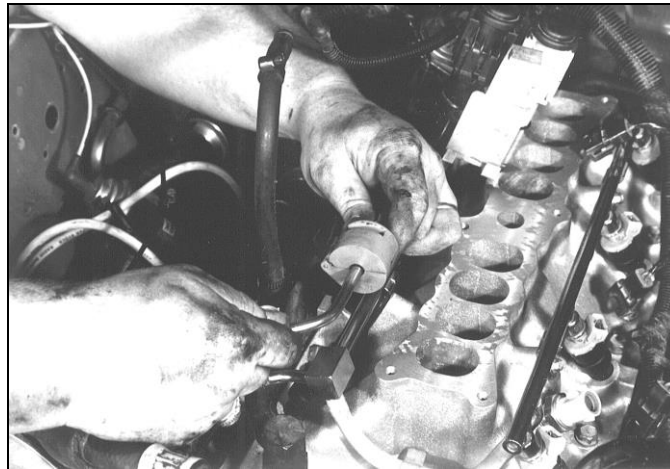

Figure 3
- The fuel pressure must be released prior to disconnecting the fuel lines or hoses. Remove the Schrader valve cap from the fuel pressure port. Attach a fuel pressure gauge to the Schrader valve. Release the fuel pressure through the gauge and into a clean metal container. Use the spring lock coupler disconnect tool to disconnect the fuel lines. See Figure 3.